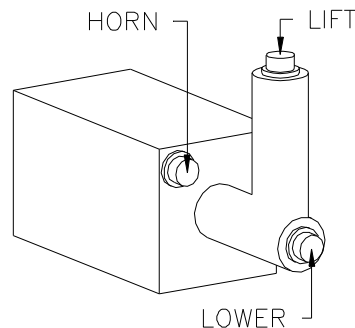

FIGURE 4 (Typical Configuration)
**To raise the lift mechanism** (the power does have to be on), depress the “lift” pushbutton typically located in the end of the control “T” handle (see Figure 4 below) but may have a different location than shown, depending on the configuration, so refer to the labeling on the unit.
**Lowering the Lift Mechanism:** On the control “T” handle, depress the push button labeled “lower”. The pushbutton is typically located in the end of the control “T” handle (see Figure 4 above) but may have a different location than shown, depending on the configuration, so refer to the labeling on the unit. The longer you keep it depressed, the more it will lower. Letting go of the pushbutton will stop the lowering action.
**Lift the Load:** (the power does have to be on), depress the “lift” pushbutton typically located in the end of the control “T” handle (see Figure 4 above) but may have a different location than shown, depending on the configuration, so refer to the labeling on the unit. The longer you keep it depressed, the more lift you will attain. Letting go of the pushbutton will stop the lifting action. Lift the load just high enough for clearance. If your truck is equipped with a tilt mechanism, tilt the load back slightly for added stability. Retract the reach mechanism if extended.
**Depositing the Load:** Position the load where you want it, and level the forks if tilted back. On the control “T” handle, depress the push button labeled “lower”. The pushbutton is typically located in the end of the control “T” handle (see Figure 4 above) but may have a different location than shown, depending on the configuration, so refer to the labeling on the unit. The longer you keep it depressed, the more it will lower. Letting go of the pushbutton will stop the lowering action. Continue holding the “lower” pushbutton until the lift mechanism is in a fully lowered position and the load is independent of the lift mechanism. Slowly withdraw from underneath the load after looking behind you and to the sides.